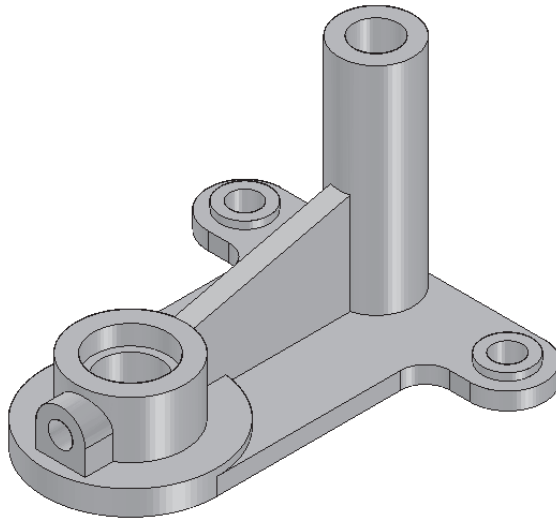

Figure 8-81 Model after creating the rib feature
- Create the rib feature, refer to Figure 8-81.
7. Choose **Finish** from the ribbon bar to create the rib feature. The final model, after creating the rib feature, is shown in Figure 8-81.